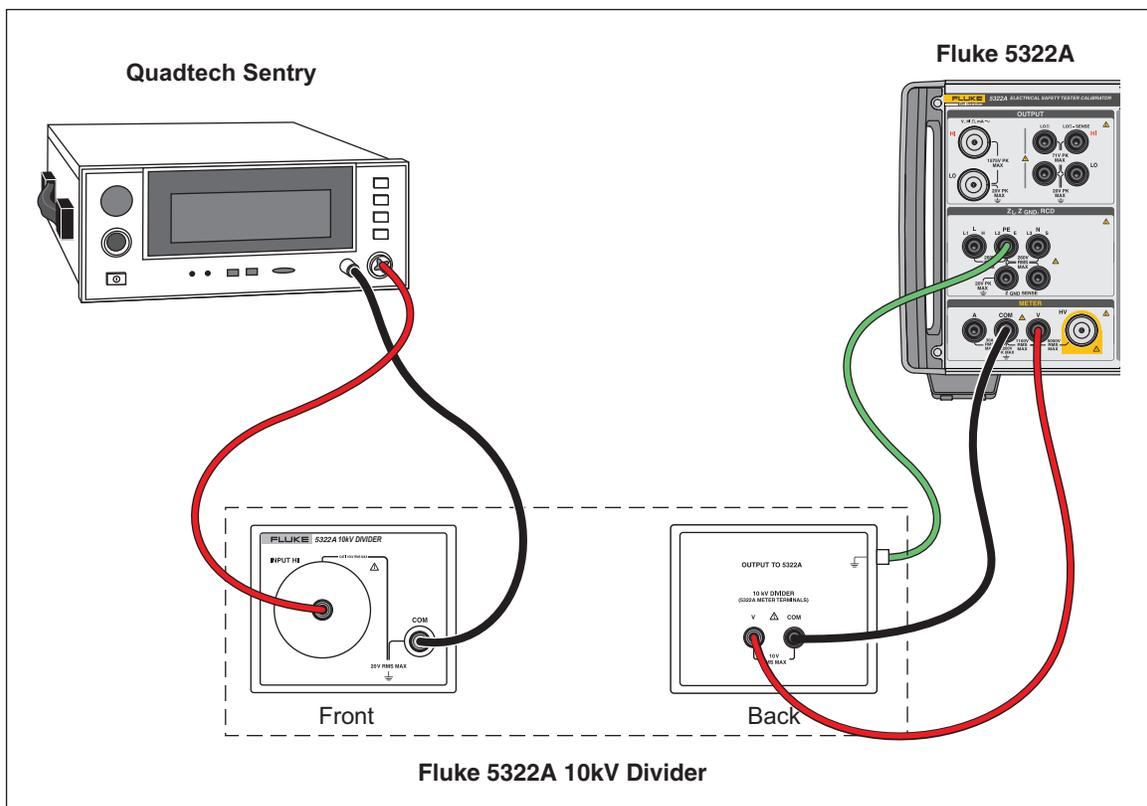

Figure 61. 10kV Divider Application
2. Connect the DUT through the 10 kV Divider and the Calibrator. See Figure 61.